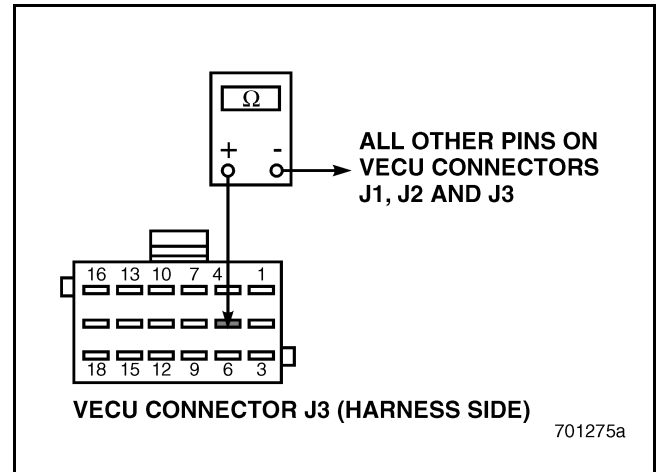

Figure 547
2. Disconnect the Throttle Position (TP) Sensor.
4. Check for continuity between VECU connector J3 pin 5 and all the other pins on VECU connectors J1, J2 and J3 (see Figure 547).